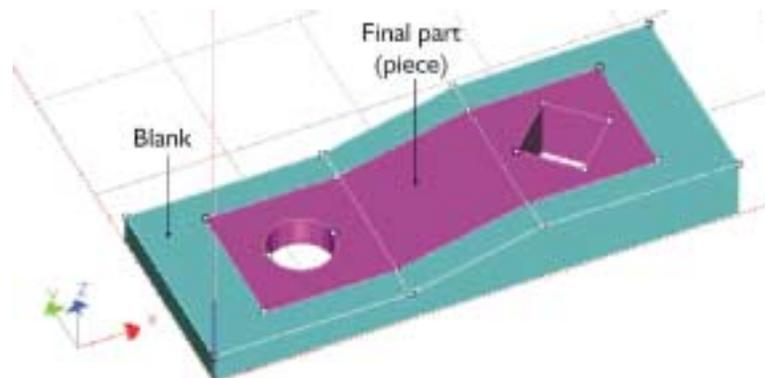
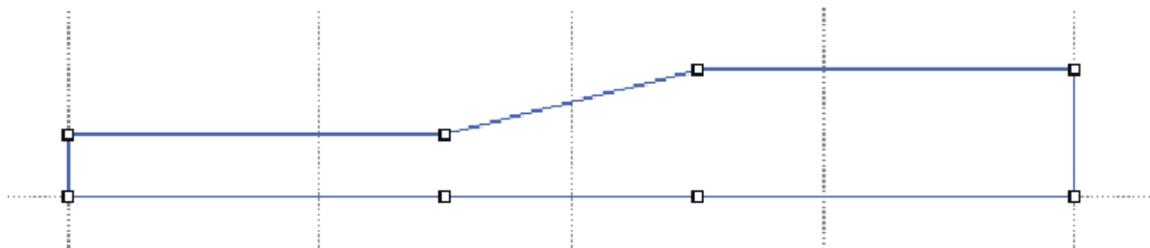
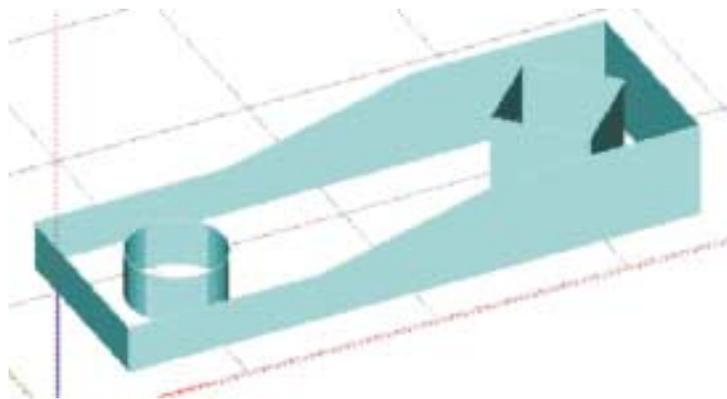

Figure A-1. Relationship between the blank and the piece
Figure A-3. The material blank drawing in FlowPATH 6.0 (before adding leads)
Figure A-7. Completed piece before any leads (as drawn in FlowPATH 6.0)
Figure A-1 shows the relationship between the blank and the piece that will be discussed in the sample task. The following information will explain how easy it is to create this figure with the programmable-Z.
The first step is to cut a blank of material that contains the side profile of the part. Figure A-3 shows the shape that will be cut out of flat-stock material.
The blank shown in Figure A-3 can be quickly drawn in FlowPATH (see M-320, FlowPATH User's Guide). The blank must be longer than the final part to allow space on each end for clamps to hold the material during cutting. Holding the blank while cutting must be taken into account when using the two-stage method. The shape of the final part will determine the best type of holding fixture to use.
- Draw lines to the two elevations. Figure A-7 shows an isometric view of the completed drawing before any lead-ins or lead-outs have been added.
Previously, a two-stage approach was used to produce the basic part shown in Figure A-1. With this method, two drawings are produced: one for the blank and one for the part. Fundamentally, the two drawings are very different. The drawing for the blank (shown without the leads in Figure A-3) is a conventional drawing with no Z-elevations. The drawing for the piece (shown in Figure A-7 without the leads) contains Z-elevations. When these drawings are opened in FlowCUT, it responds differently depending on if the drawing has Z-elevations.